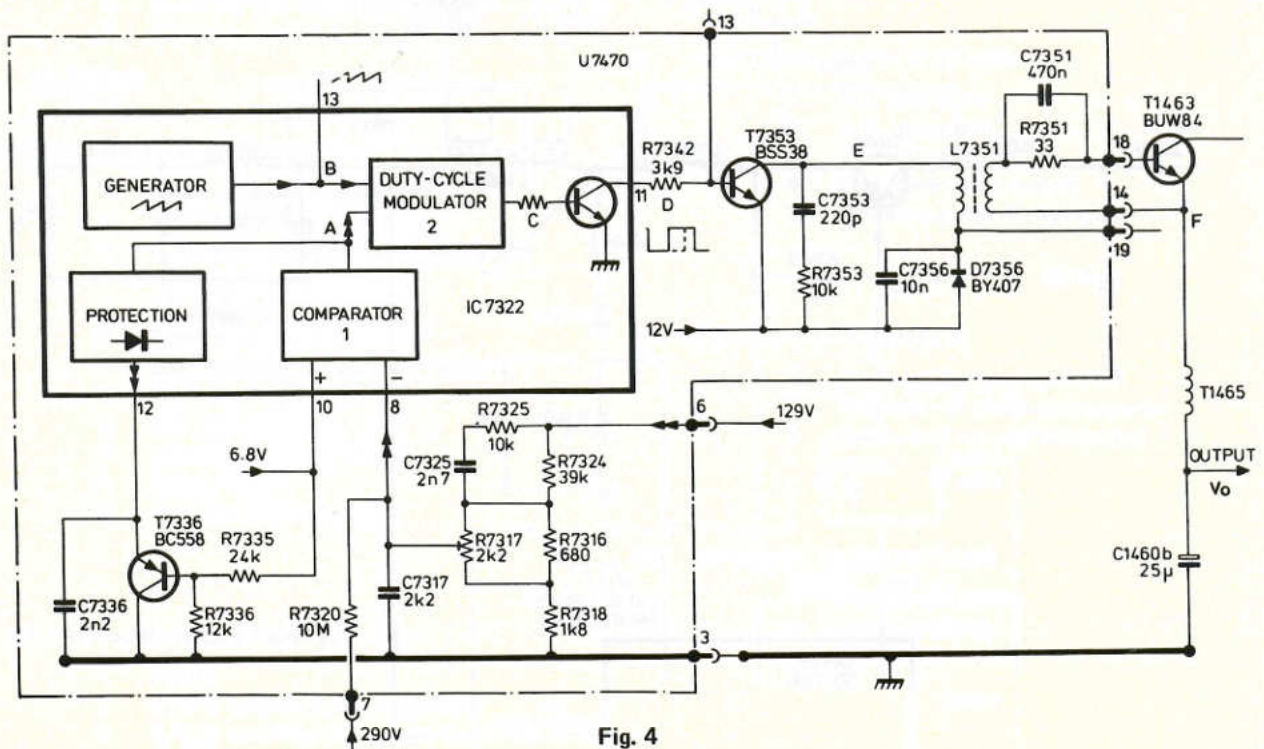

Fig. 4
c. Drive section of IC7322 (Fig. 4). The supply voltage for IC7322 is furnished by the mains rectifier module U6450. A part of the supply current for IC7322 is obtained from T7353; the current which is applied via R6299 and R6300 determines the starting voltage of the system. D7343 is a zener diode to give the 6,8V reference voltage required by the I.C. for various purposes. The first function of the drive section is to stabilize the supply voltage at 129V. This is realised in the drive section by comparing a part of the output voltage with the reference voltage and increasing or decreasing the duty cycle in accordance with the difference. Comparator 1 compares a part of the output voltage with its reference voltage. The output voltage of this comparator on point 12 of IC7322 depends on the difference between these two voltages. In the second comparator this output voltage is compared with a saw-tooth voltage from an internal oscillator. The square-wave voltage supplied by this second comparator has a variable duty cycle depending on the output voltage of comparator 1. Therefore the second comparator is called the duty-cycle modulator. If the output voltage becomes too low, the output voltage of comparator 1 increases.